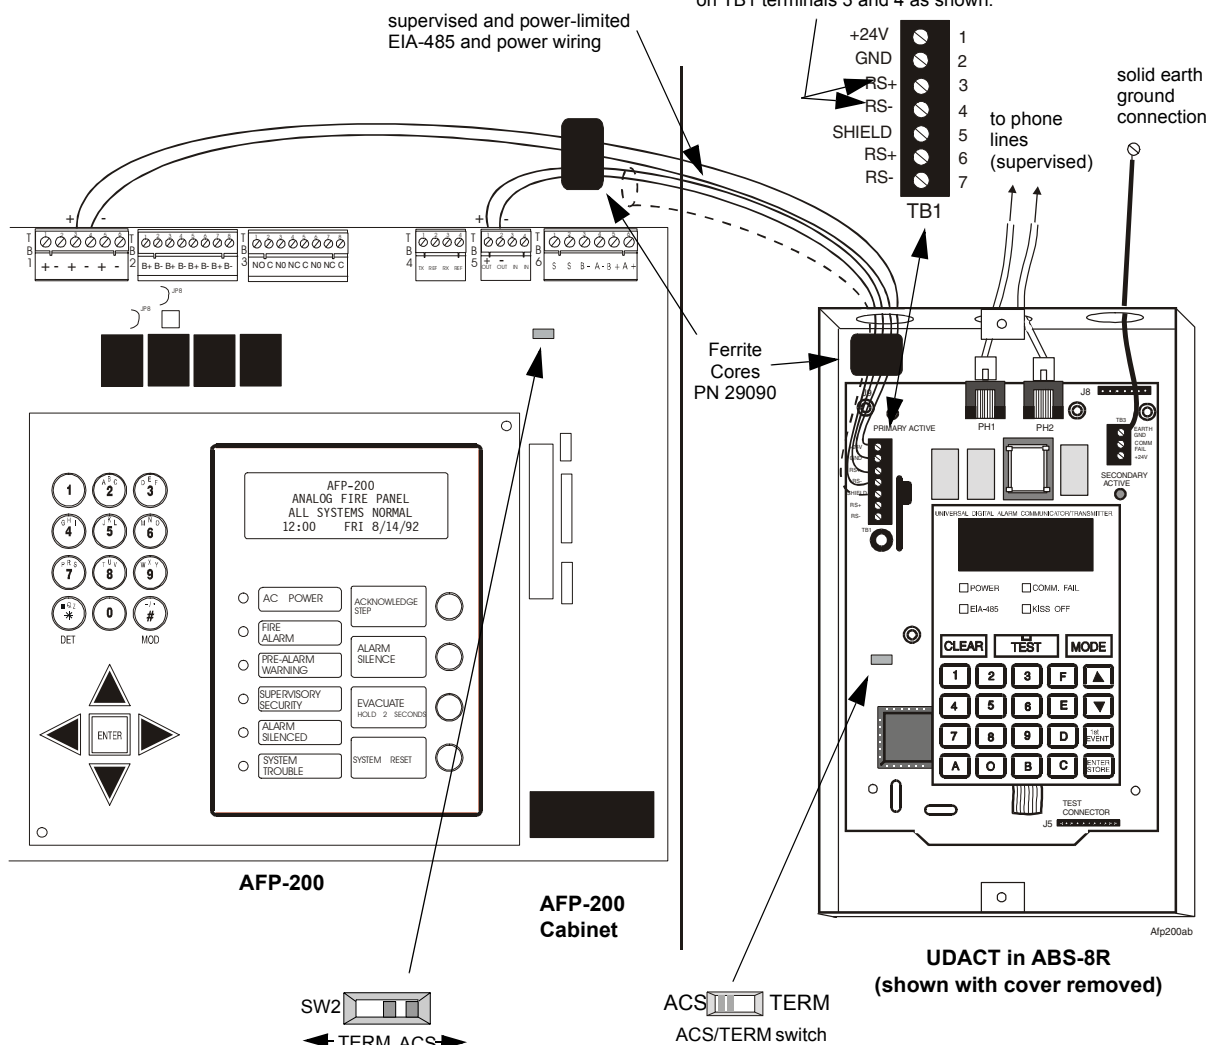

Figure 130 NFPA 72 Central Station Fire Alarm System – UDACT (Protected Premises Unit)
Figure 130 shows typical connections for wiring a UDACT to the control panel. For detailed wiring, configuration, and programming instructions for the UDACT, refer to the UDACT manual. When finished installation, review the checklist below.
1. Is the UDACT connected to non-resettable 24 VDC power on the control panel [TB1, terminal 3 (+) and terminal 4 (-)] with correct polarity (Figure 130)?
2. Is the UDACT connected to the EIA-485 port on the control panel, [TB5, terminal 1 (+) and terminal 2 (-)] with correct polarity (Figure 130)?
3. Is the UDACT ACS/TERM switch set to the ACS (left) position (Figure 130)?